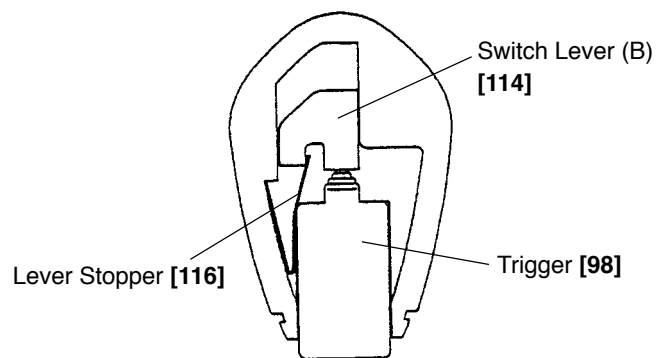

Fig. 10 (A - A)
The Lever Stopper [116] at the side of the Trigger [98] does not prevent Switch Lever (B) [114] from rotating (Fig. 10). The switch is turned on and nails are driven by depressing the Trigger [98].